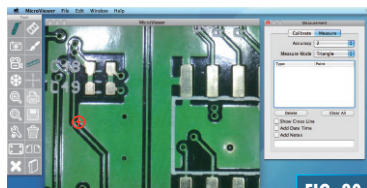

FIG. 80
3. Click and hold the mouse button at the first point of the object. (Fig. 80).